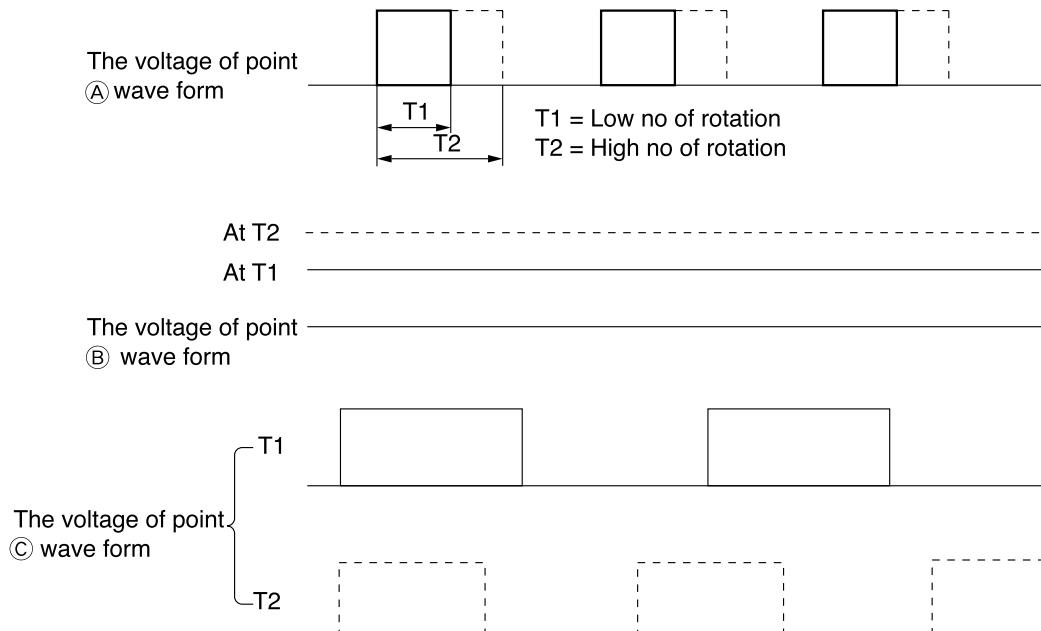

Fig. 6-2
- The 15.7 kHz PWM pulse shown in Fig.6-2 from the micro computer pin 54 is output to point (A). The width of this pulse changes with instruction number of rotations.